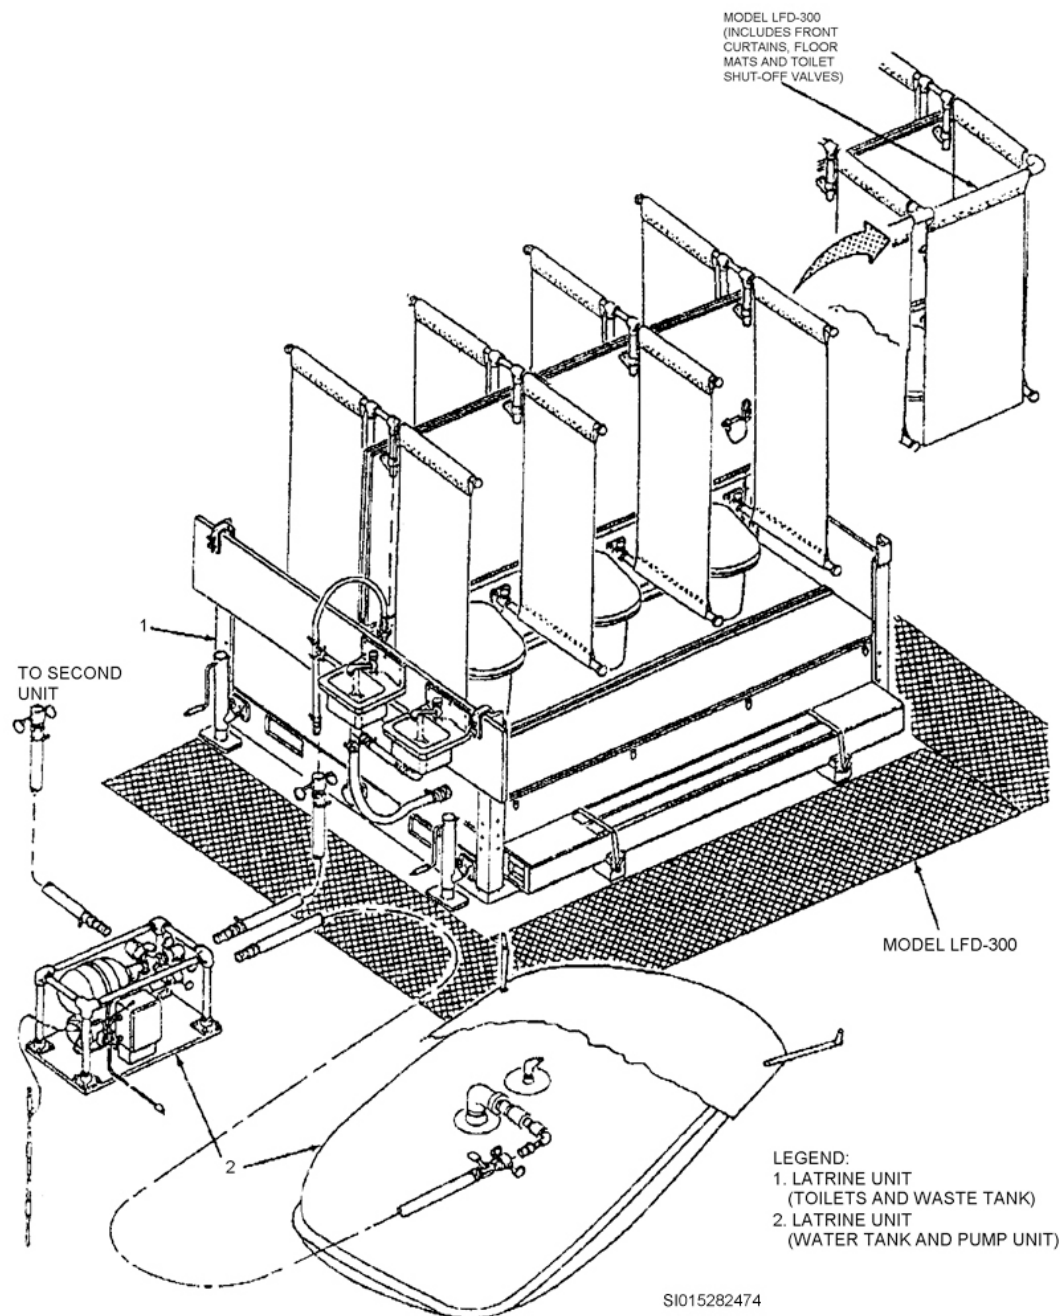

Figure 2-33. Field deployable latrine unit.
The field deployable latrine (fig. 2-33) consists of two latrine units and a pumping unit. Each latrine unit consists of two batteries of three toilets mounted back-to-back above a 360 gal. waste tank. A urinal trough is hung onto one of the sides of the latrine. This also drains into the waste tank. Mount the two sinks on the side opposite the urinal, facing the pumping unit. Mount the two sinks on the side opposite the urinal, facing the pumping unit.
3. Connect the hard suction hose (fig. 2-38, callout 40) from the water bladder to the pumping unit. Connect the supply hose from the pumping unit to the latrine (side with the sinks, fig. 2-33). Prime the pump with approximately 3 quarts of water. (After the initial priming, the pump is self-priming.)